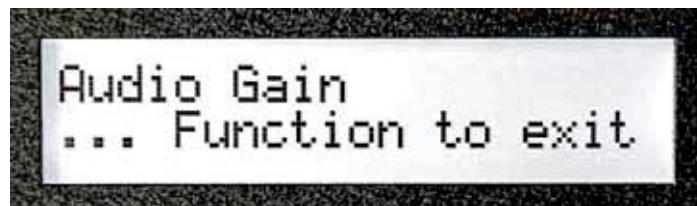

Figure 3-10. Press the FUNCTION Key to read Audio Gain
2. Pressing the FUNCTION key again will display Voltage and Current on the LCD display (see Figure 3-10).
2. Pressing the FUNCTION key again will display the audio gain (see *Figure 3-10*).